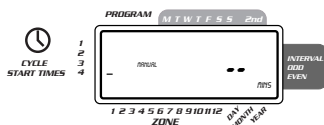

FIGURE 13
- Press the **MANUAL** key. Then press **NEXT** three times. The display will show a blinking cursor on station 1 along with **-- MINS** [See Figure 13].